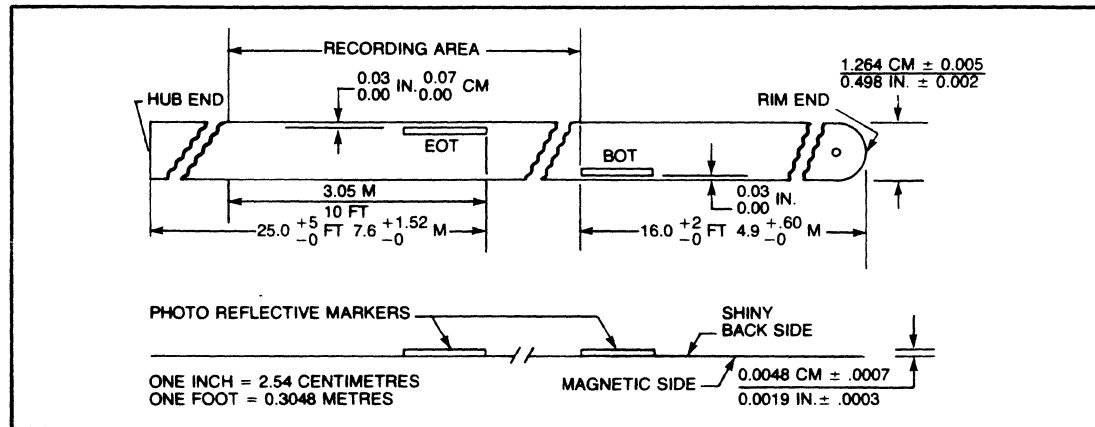

Figure 4-4. Magnetic Tape Layout
Tape must be maintained to ensure the proper operation of the tape unit. When maintaining tape, keep in mind the physical layout of half-inch magnetic tape, as illustrated in Figure 4-4. A full reel of tape has a nominal recording length of 2400 ft (732 m). The entire length of the tape is oxide-coated. Beginning- and end-of-tape sensing is controlled by reflective markers affixed to the Mylar-base side of the tape. The beginning-of-tape (BOT) marker is attached approximately 16.0 ft (4.9 m) from the physical beginning of the tape, and the end-of-tape (EOT) marker is attached approximately 25.0 ft (7.6 m) from the physical end of the tape.
3. Add or replace the BOT patch if necessary, and remount the reel (see Figure 4-4 for physical specifications).
4. Add or replace the EOT patch, if necessary. (See Figure 4-4 for physical specifications.)